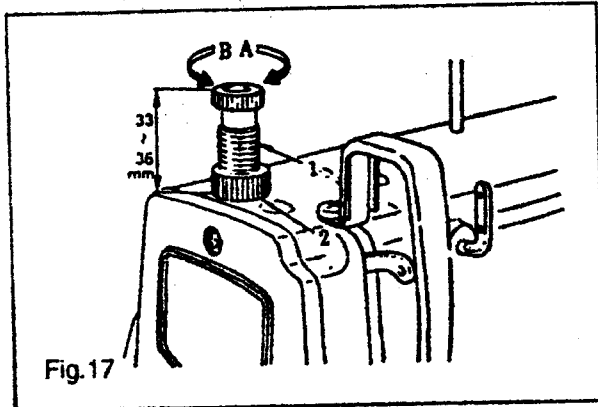

Fig.17
11. PRESSER FOOT PRESSURE (Fig.17)